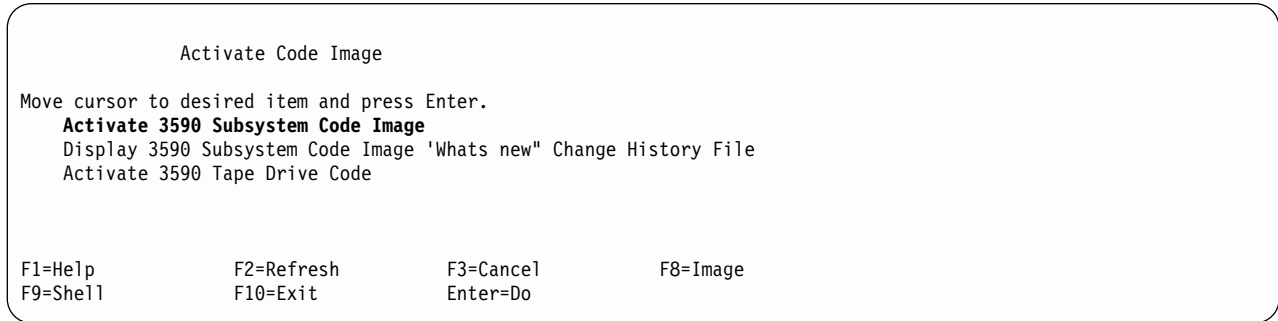

Figure 11-34. Activate Code Image
**Attention:** After you fix the cabling, the **ONLY** way to remove the extra devices from the configuration is to do a Activate Code Image shown in screens Figure 11-32 and Figure 11-34 on page 11-62.
3. Select **Activate 3590 Subsystem Code Image** shown on Figure 11-34,